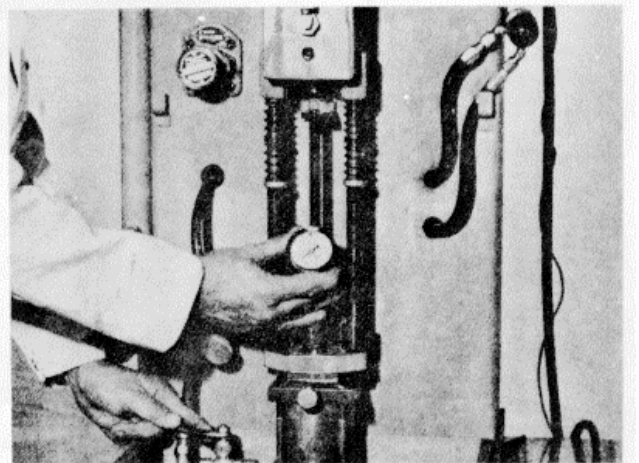

Figure 16H-87. Installing the ST-789 Load Cell
4. Align the timing mark, Figure 16H-76, and open the hydraulic valve. Place the load cell, ST-790-5111, in the test stand and clamp it in place by opening the air valve, Figure 16H-87.